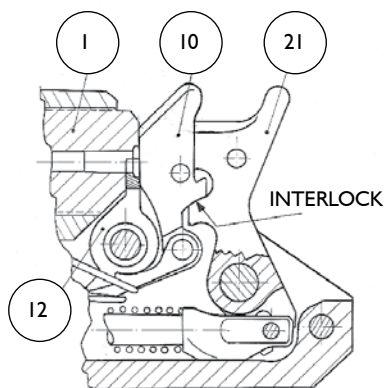

Fig. 10.03
Figures 10.03 and 10.04 show the interlock. It should ideally be a light fit but on no account more than .003"/.004" or .076/.102 mm clearance. Note that the two interlock faces are not flat surfaces but precise and identical circular arcs struck from the hammer and pivot centre.
- 1 Assemble firing block (item 10) to stunner without extractor (item 12) in position.
- 2 Check interlock fit - this should be a close fit, shown in Fig. 10.03.
- 3 If adjustment is required use a smooth file on the hammer (item 21) interlock face until the correct fit is obtained. Take care to retain correct circular arc on face of interlock.
10.3 - WHEN TO REPLACE THE SEAR ROD SPRING (item 19)